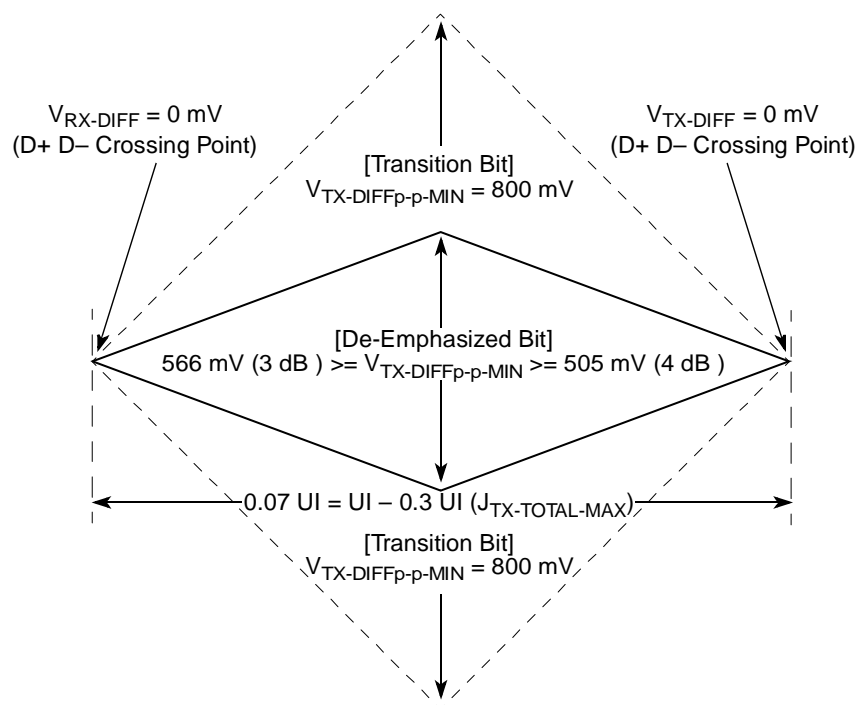
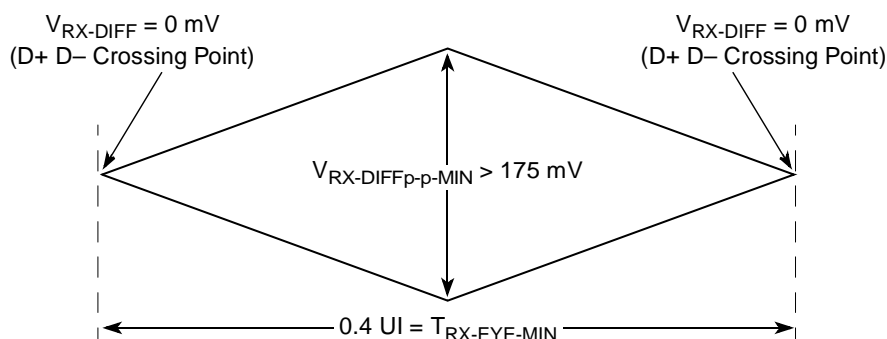
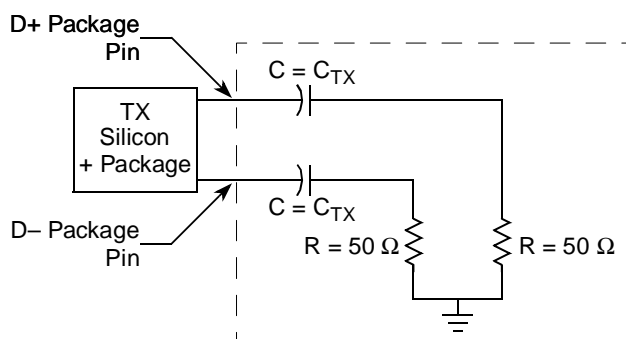

Figure 56. Minimum Transmitter Timing and Voltage Output Compliance Specifications
Figure 57. Minimum Receiver Eye Timing and Voltage Compliance Specification
Figure 58. Compliance Test/Measurement Load
2. Specified at the measurement point into a timing and voltage compliance test load as shown in Figure 58 and measured over any 250 consecutive TX UIs. (Also refer to the transmitter compliance eye diagram shown in Figure 56.)
4. The transmitter input impedance shall result in a differential return loss greater than or equal to 12 dB and a common mode return loss greater than or equal to 6 dB over a frequency range of 50 MHz to 1.25 GHz. This input impedance requirement applies to all valid input levels. The reference impedance for return loss measurements is 50 Ω to ground for both the D+ and D– line (that is, as measured by a vector network analyzer with 50- Ω probes—see Figure 58.) Note that the series capacitors C_{TX} is optional for the return loss measurement.
5. Measured between 20%–80% at transmitter package pins into a test load as shown in Figure 58 for both $V_{\text{TX-D+}}$ and $V_{\text{TX-D-}}$.
The TX eye diagram in Figure 56 is specified using the passive compliance/test measurement load (see Figure 58) in place of any real PCI Express interconnect +RX component.
2. Specified at the measurement point and measured over any 250 consecutive UIs. The test load in Figure 58 should be used as the RX device when taking measurements (also refer to the receiver compliance eye diagram shown in Figure 57). If the clocks to the RX and TX are not derived from the same reference clock, the TX UI recovered from 3500 consecutive UI must be used as a reference for the eye diagram.
4. The receiver input impedance shall result in a differential return loss greater than or equal to 15 dB with the D+ line biased to 300 mV and the D– line biased to –300 mV and a common mode return loss greater than or equal to 6 dB (no bias required) over a frequency range of 50 MHz to 1.25 GHz. This input impedance requirement applies to all valid input levels. The reference impedance for return loss measurements for is 50 Ω to ground for both the D+ and D– line (that is, as measured by a vector network analyzer with 50- Ω probes, see Figure 58). Note that the series capacitors C_{TX} is optional for the return loss measurement.
The RX eye diagram in Figure 57 is specified using the passive compliance/test measurement load (see Figure 58) in place of any real PCI Express RX component.
In general, the minimum receiver eye diagram measured with the compliance/test measurement load (see Figure 58) will be larger than the minimum receiver eye diagram measured over a range of systems at the input receiver of any real PCI Express component. The degraded eye diagram at the input receiver is due to traces internal to the package as well as silicon parasitic characteristics which cause the real PCI Express component to vary in impedance from the compliance/test measurement load. The input receiver eye diagram is implementation specific and is not specified. RX component designer should provide additional margin to adequately compensate for the degraded minimum receiver eye diagram (shown in Figure 57) expected at the input receiver based on some adequate combination of system simulations and the return loss measured looking into the RX package and silicon. The RX eye diagram must be aligned in time using the jitter median to locate the center of the eye diagram.
The reference impedance for return loss measurements is $50\ \Omega$ to ground for both the D+ and D– line (that is, as measured by a vector network analyzer with $50\text{-}\Omega$ probes, see Figure 57). Note that the series capacitors, CTX, are optional for the return loss measurement.
The AC timing and voltage parameters must be verified at the measurement point, as specified within 0.2 inches of the package pins, into a test/measurement load shown in Figure 58.